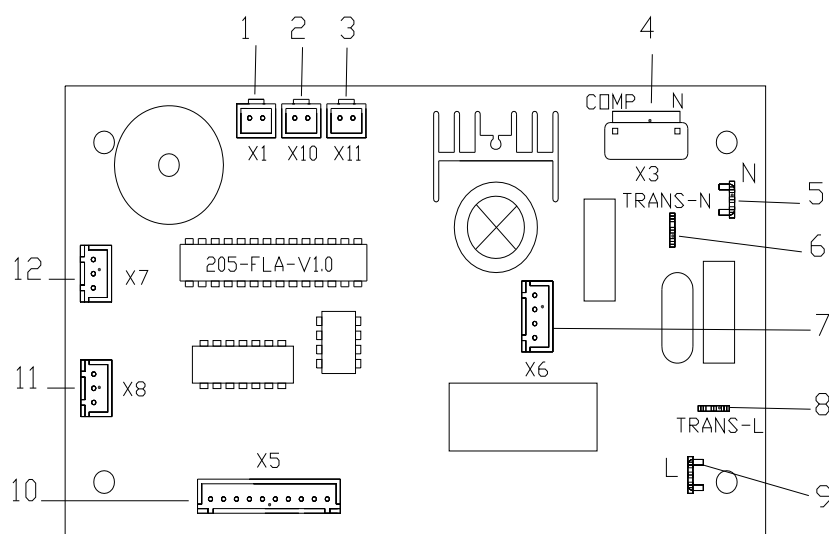

Fig.11
Diagram of main PCB connection ( Fig.11)
- 1 > . After turning on the power, if the LED display shows the temperature is similar with the ambient temperature, it is normal, if abnormal, please remove the electrical box, check the sensor insert whether reliable (Fig.11). If the insert is reliable, it is the sensor's fault, remove the air-duct board and replace the sensor with the same module (Fig.1, Fig.2, Fig.3);
- 1 > . Check it the X11 will connected ( Fig.11 ) , if it ok, replace the switch please.